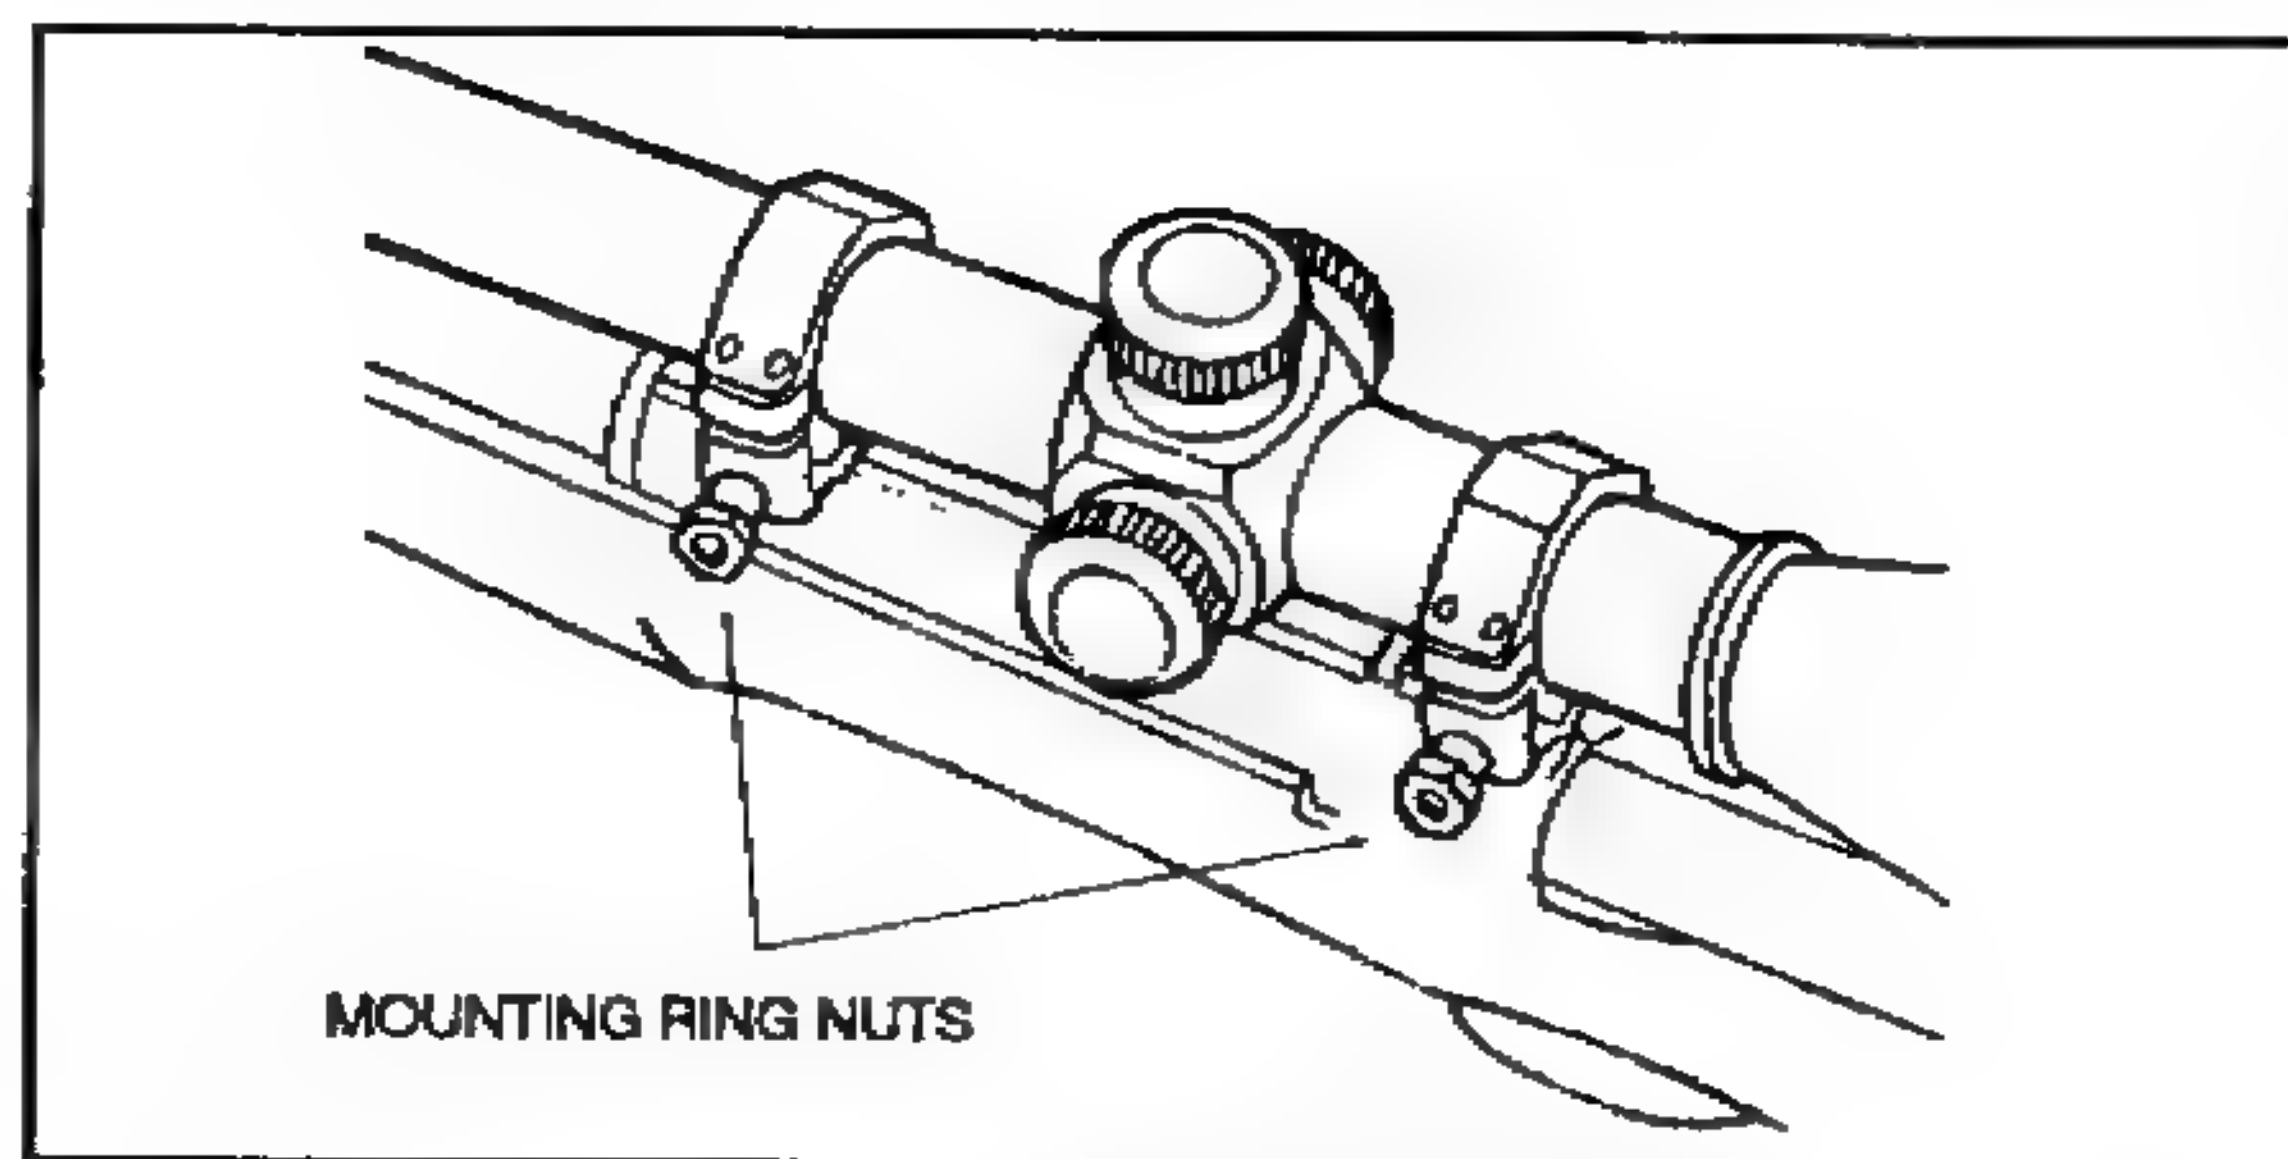

Figure 2-14. Mounting ring nuts.
- Use the 1/2-inch combination wrench, loosen the front and rear mounting ring nuts (Figure 2-14) on the scope, and remove the scope.